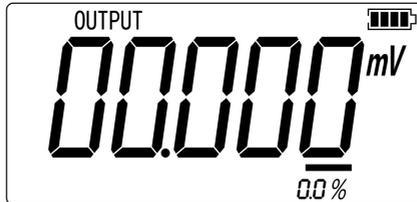

Figure 2.1-4
5. Press , switch to DC mV output mode. The screen will display as shown in Figure 2.1-4